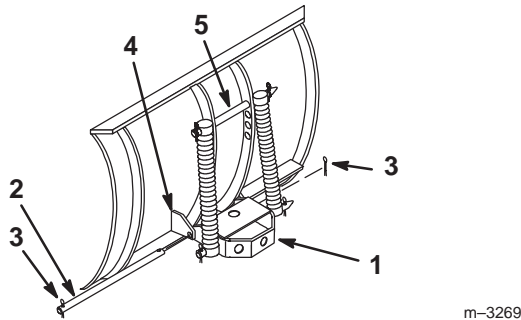

Figure 2
1. Lift and rotate the channel assembly (Fig. 2) so that the holes align with the lower blade mounts.
2. Slide the rod through the holes and secure it with two cotter pins (1 in.) (Fig. 2).